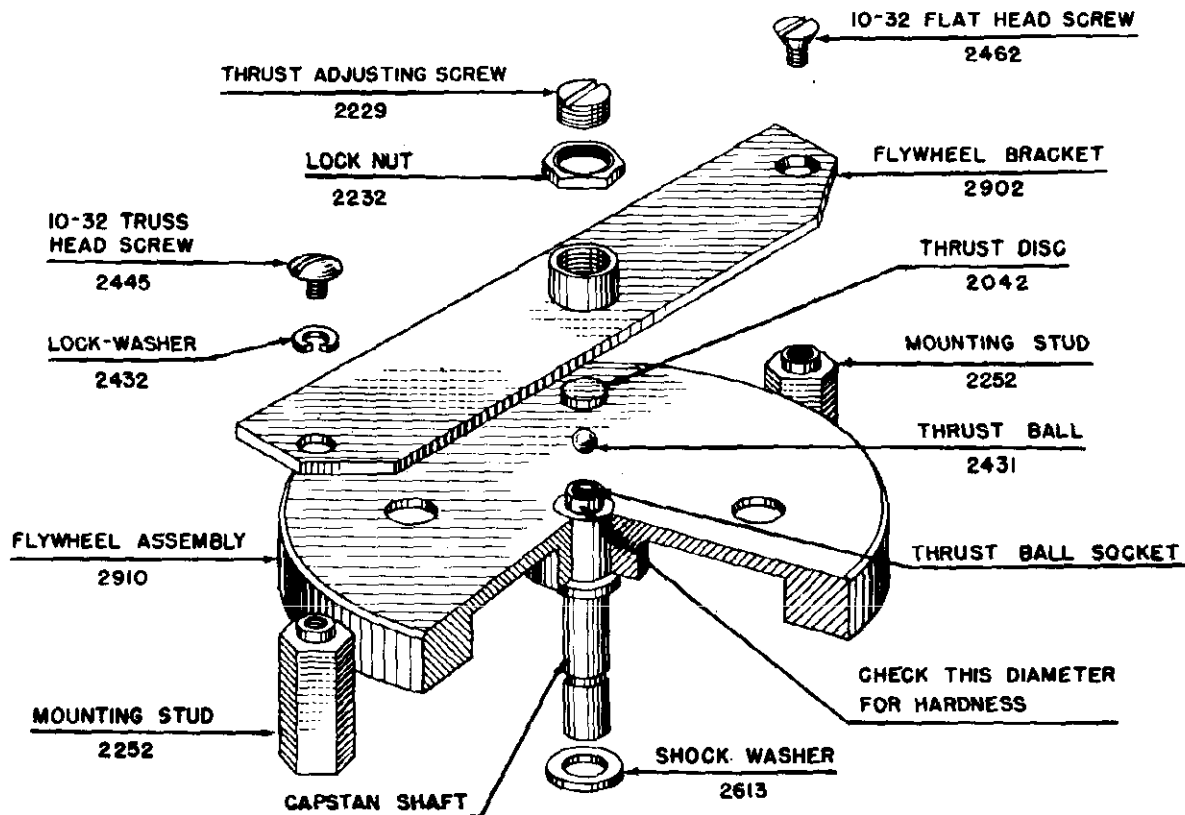
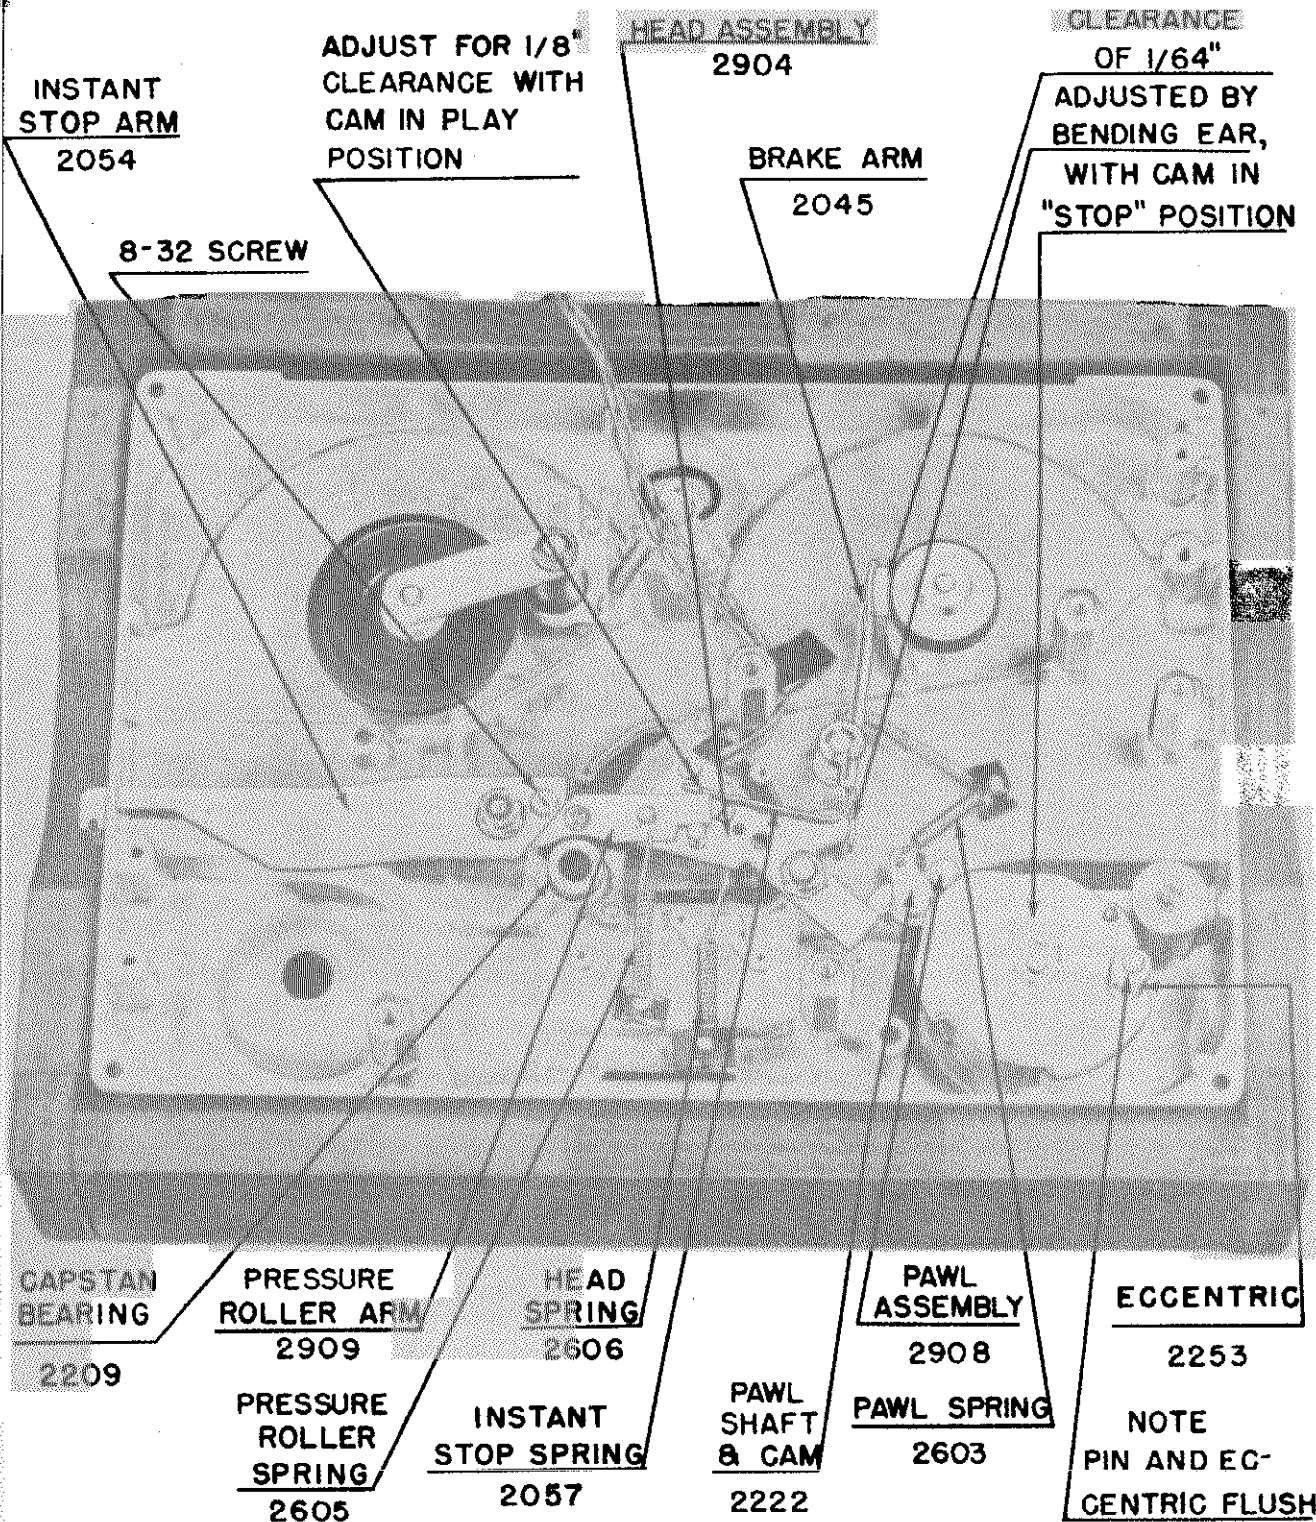

FIG. 7 - Exploded View, Flywheel Assembly.
FIG. 11 - Bottom View of Recorder After Removing Flywheel Assembly.
(SEE FIG.7)
(1) Disassembly: (See Fig. 7.) Remove screws (#2462) and (#2445) from flywheel bracket. Lift bracket (#2902) from studs (#2252). Lift thrust ball (#2431) and thrust disc (#2042) from thrust socket.
(2) Inspection: Inspect thrust ball (#2431), thrust disc, (#2042) and flywheel (#2910) surfaces for burrs and wear.
(3) Repair: Replace worn parts. Capstan bearing (Fig. 11) should be replaced if capstan shaft circumference indicates wear.
(4) Reassembly: Lubricate thrust ball (#2431) and socket with Andox "B" Grease. Lubricate capstan shaft with Stan-Oil No. 75. Assemble parts in order shown in Fig. 7. Set thrust adjusting screw (#2229) to allow flywheel 3/64 inch vertical play along capstan
Place Function switch in STOP position and adjust for 1/64 inch clearance between felt pad and shaft (see Fig. 11).
Place Function switch in PLAY position and adjust for 1/8 inch clearance as noted in Fig. 11.
Rotate eccentric (#2253, see Fig. 11) around its mounting pin to afford:
As viewed in Fig. 11, top flat surface of eccentric should be flush with end of its mounting pin.
Check shaft diameter noted in Figure 7. If this diameter is not "file hard", replace flywheel assembly (#2910) and capstan bearing (#2209).